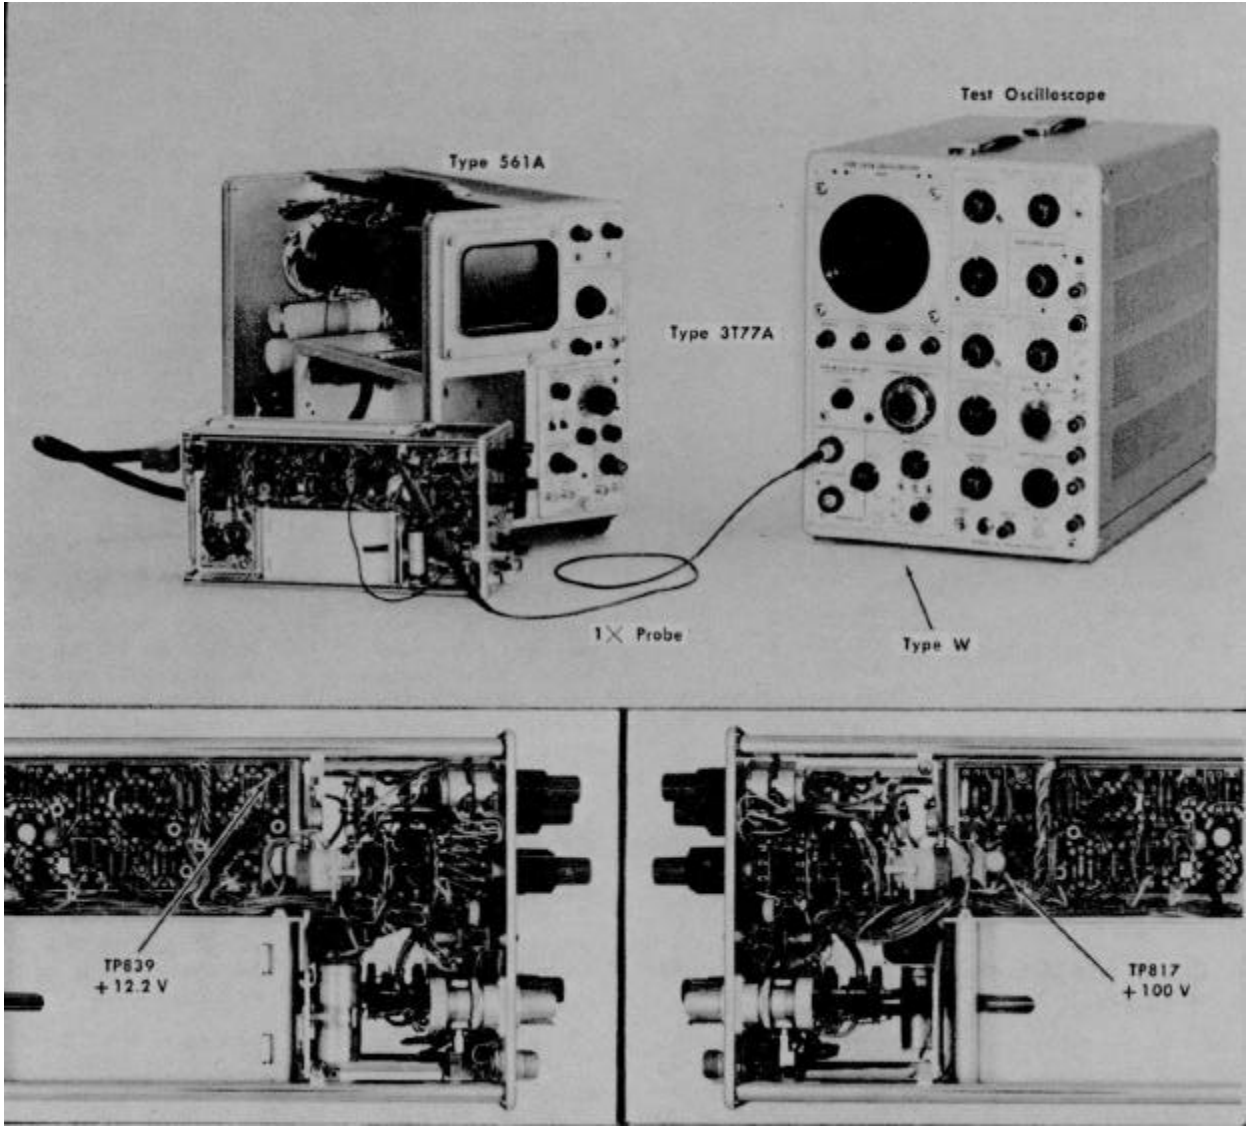

Fig. 8-4. Test equipment setup and Test Points for Steps 1 and 2 of Calibration Procedure.
During warm up, set the instrument controls as listed following Fig. 8-4.
a. Move the 1 X probe tip to TP817 (Fig. 8-4 insert). Set the Type W Comparison voltage to 10, Outer Dial to 1, Variable Dial to 0.00, the Millivolts/Cm switch to 20 and the Input Atten switch to 100. Recheck the DC Bal and Position control settings for a graticule centered zero volt trace. The test oscilloscope deflection factor is now 2 volts/cm with the graticule centerline representing +100 volts. 5% of 100 volts is 2.5 major CRT divisions.
Place the 1X Probe into the A input connector of the Type W. Connect the probe ground clip conveniently near the Type 3S1 Test Point 839 (see Fig. 8-4) and the probe tip at TP839.
a. Make the probe connection and control settings listed following Fig. 8-4. The test oscilloscope CRT deflection factor is 50 mV/Cm using the control settings listed. The graticule centerline represents +12.2 volts, and 1% is 122 mV or 2.42 divisions up or down from the graticule center.